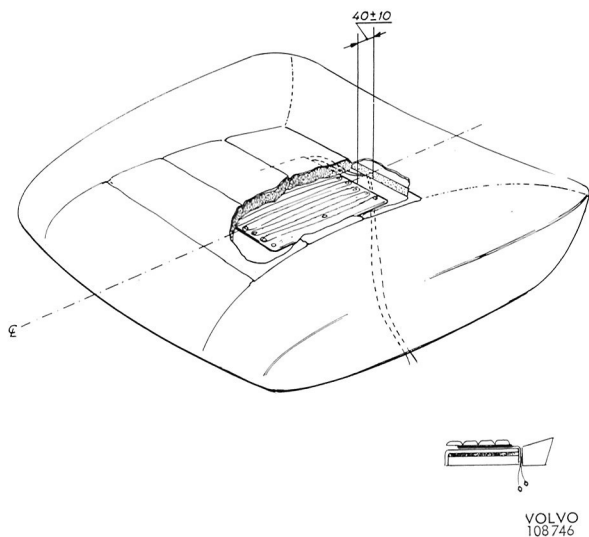

Fig. 8-57. Measurements, heater pad installation, seat cushion
7. Route the wires through the splice in the seat front upholstery and out through the splice in the seat cushion underside upholstery, Fig. 8-57.